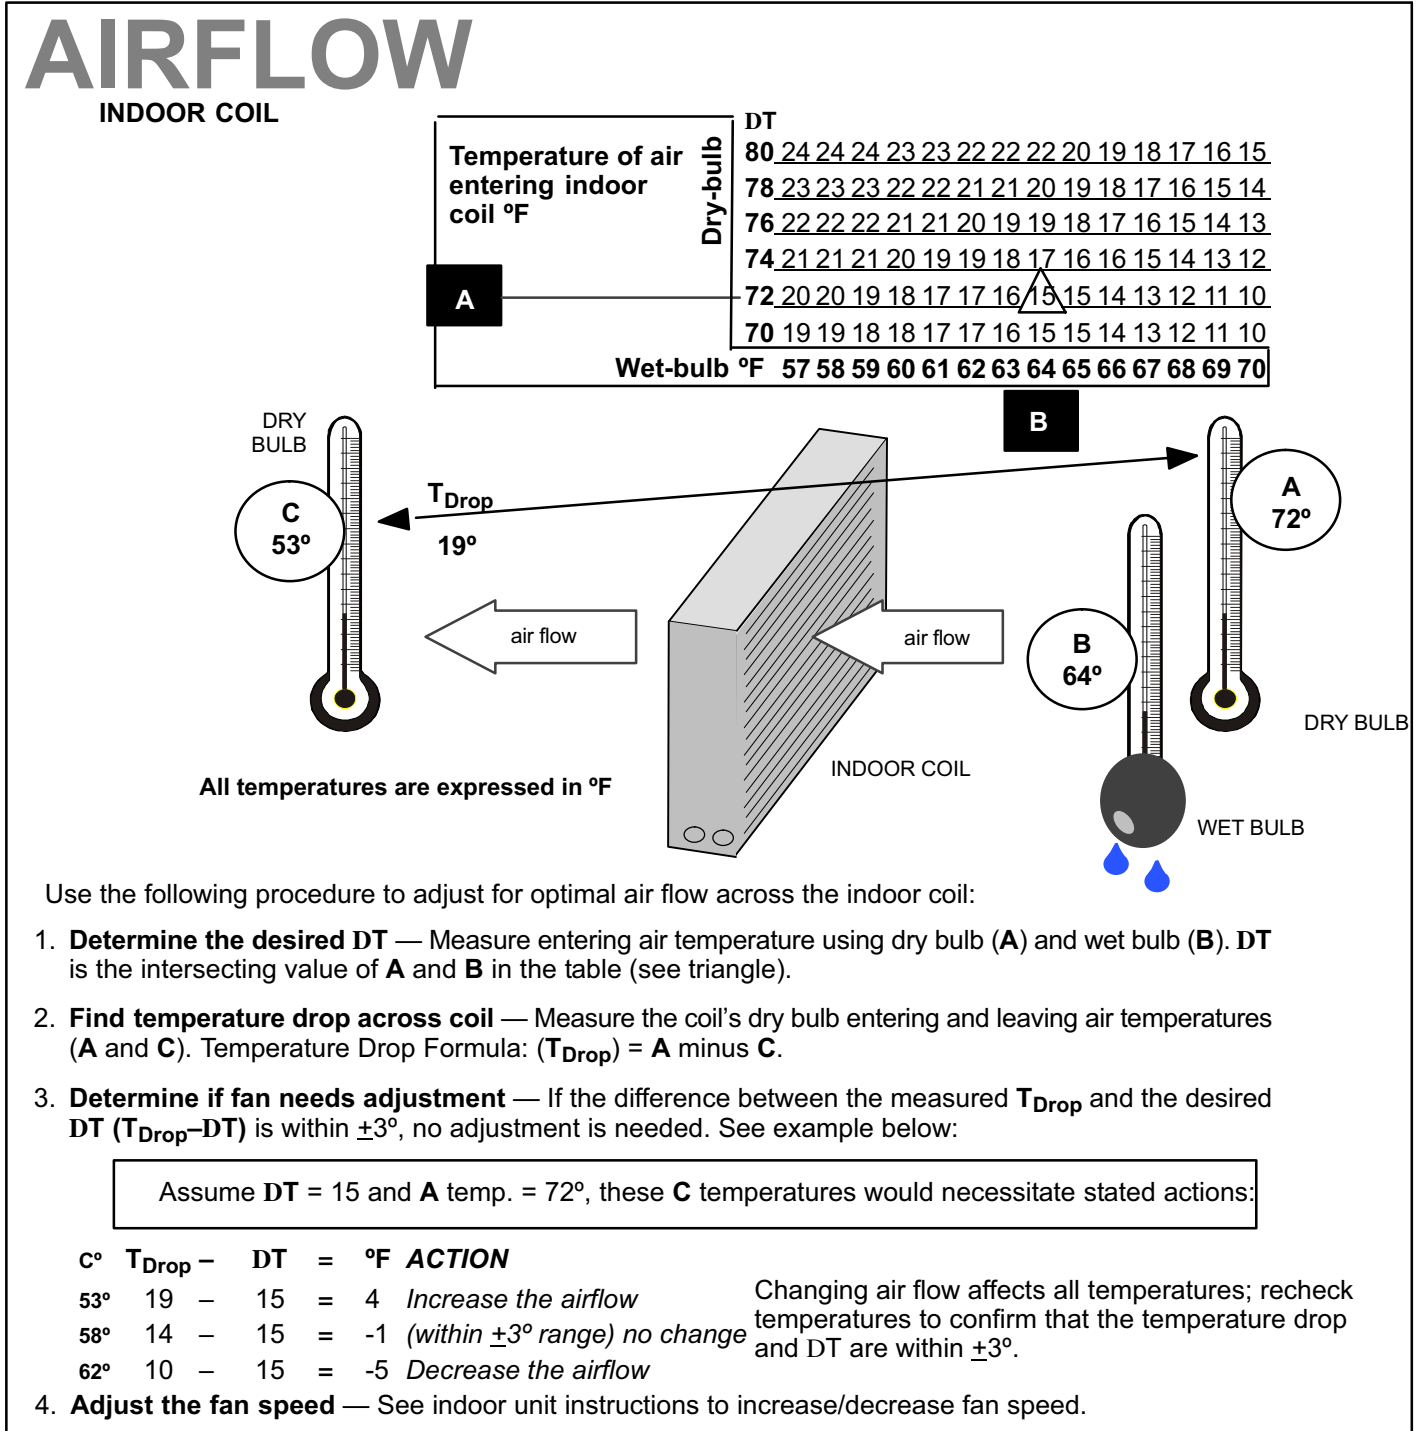

Figure 12. Checking Indoor Airflow over Evaporator Coil using Delta-T Chart
This system uses HFC-410A refrigerant which operates at much higher pressures than HCFC-22. The pre-installed liquid line filter drier is approved for use with HFC-410A only. Do not replace it with components designed for use with HCFC-22. This unit is NOT approved for use with coils which use capillary tubes or fixed orifices as a refrigerant metering device. Check airflow using the Delta-T (DT) process using the illustration in Figure 12.
1. Confirm proper airflow across coil using Figure 12.